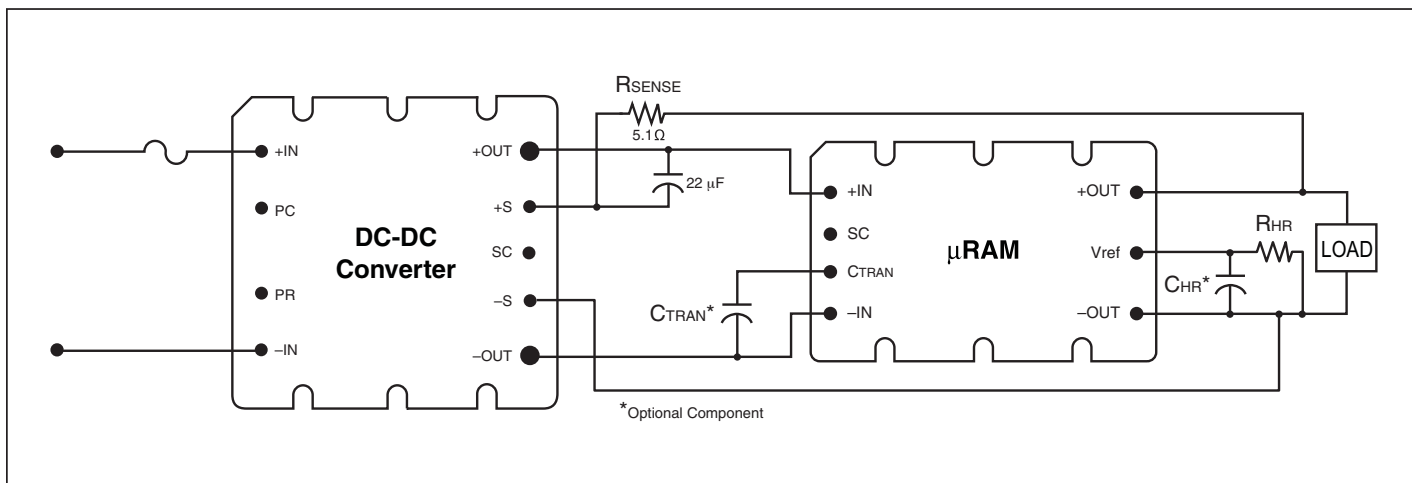
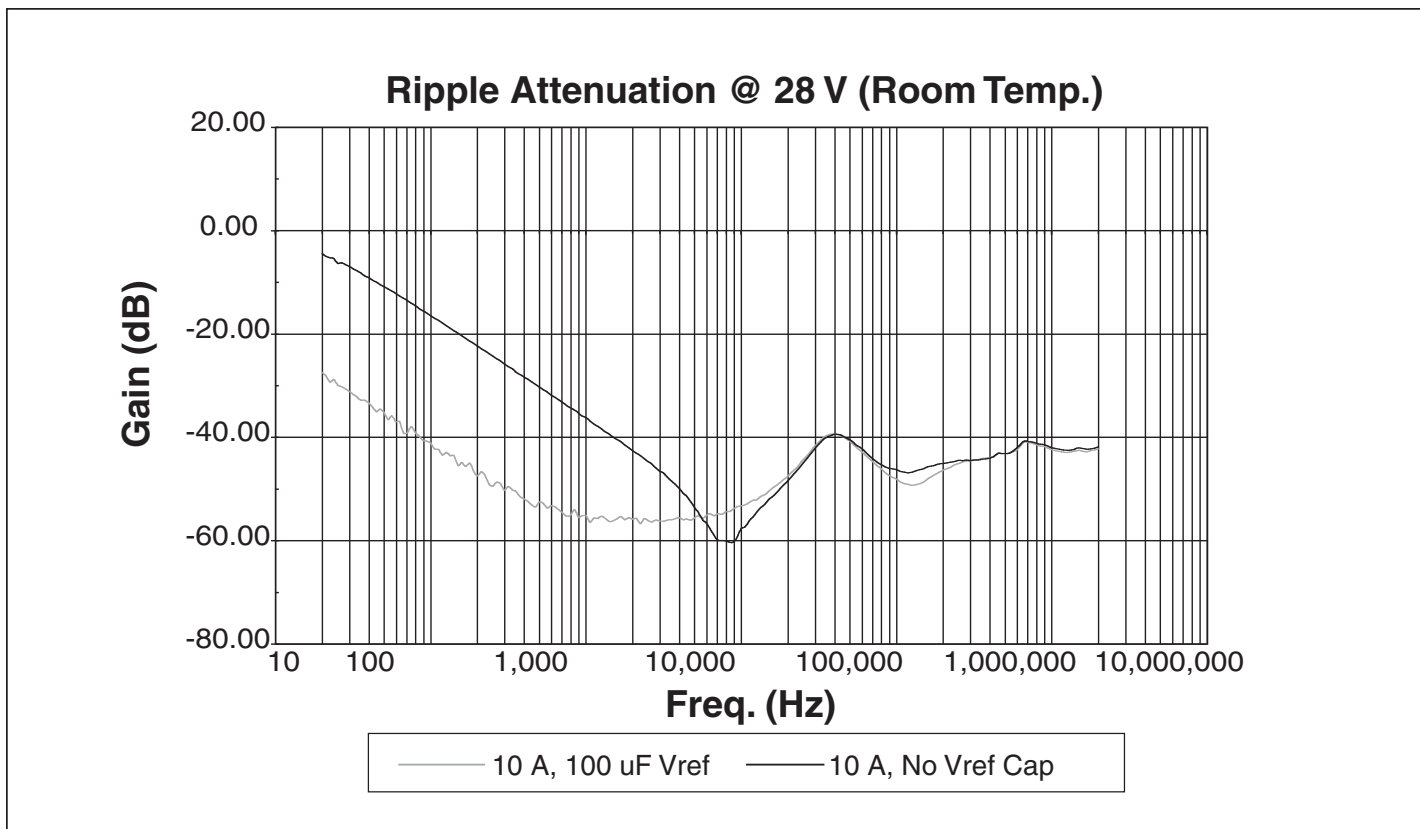

Figure 1 — Typical Configuration using Remote Sensing
Figure 3a
The MicroRAM has an internal passive filter that effectively attenuates ripple in the 50 kHz to 1 MHz range. An active filter provides attenuation from low frequency up to the 1 MHz range. The user must set the headroom voltage of the active block with the external RHR resistor to optimize performance. The MicroRAM must be connected as shown in Figures 1 or 2 depending on the load sensing method. The transient load current performance can be increased by the addition of optional CTRAN capacitance to the CTRAN pin. The low frequency ripple attenuation can be increased by addition of optional CHR capacitance to the VREF pin as shown in Figures 3a and 3b, on p. 5.
Figure 3a, 3b — Curves demonstrating the small signal attenuation performance as measured on a network analyzer with a typical module at (a) 28 V and 10 A output and (b) 5 V and 10 A. The low frequency attenuation can be enhanced by connecting a 100 μF capacitor, CHR, to the VREF pin as shown in Figures 1 and 2.
**Figure 9** — V375A28C600B and μRAM; Input and output dynamic response no added CTRAN; 20% of 20 A rating load step of 4 A (10 A – 14 A);RHR = 178 k (Configured as in Figs. 1 & 2)
**Figure 10** — V375A28C600B and μRAM; Input and output dynamic response CTRAN=820 μF Electrolytic; 32.5% of load step of 6.5 A (10 A – 16.5 A);RHR=178 k (Configured as in Figs. 1 & 2)
**Figure 12 — V300B12C250B and μRAM; Input and output dynamic response no added CTRAN; 17.5% of 20 A rating load step of 3.5 A (10 A – 13.5 A);RHR=80 k (Configured as in Figs. 1 & 2)**
**Figure 13 — V300B12C250B and μRAM; Input and output dynamic response CTRAN = 820 μF Electrolytic; 30% of load step of 6 A (10 A – 16 A);RHR=80 k (Configured as in Figs. 1 & 2)**
**Figure 15 — V48C5C100B and μRAM; Input and output dynamic response no added CTRAN; 22.5% of 20 A rating load step of 4.5 A (10 A – 14.5 A);RHR=31k (Configured as in Figs. 1 & 2)**
**Figure 16 — V48C5C100B and μRAM; Input and output dynamic response CTRAN=820 μF Electrolytic; 35% of load step of 7 A (10 A – 17 A);RHR=31 k (Configured as in Figs. 1 & 2)**